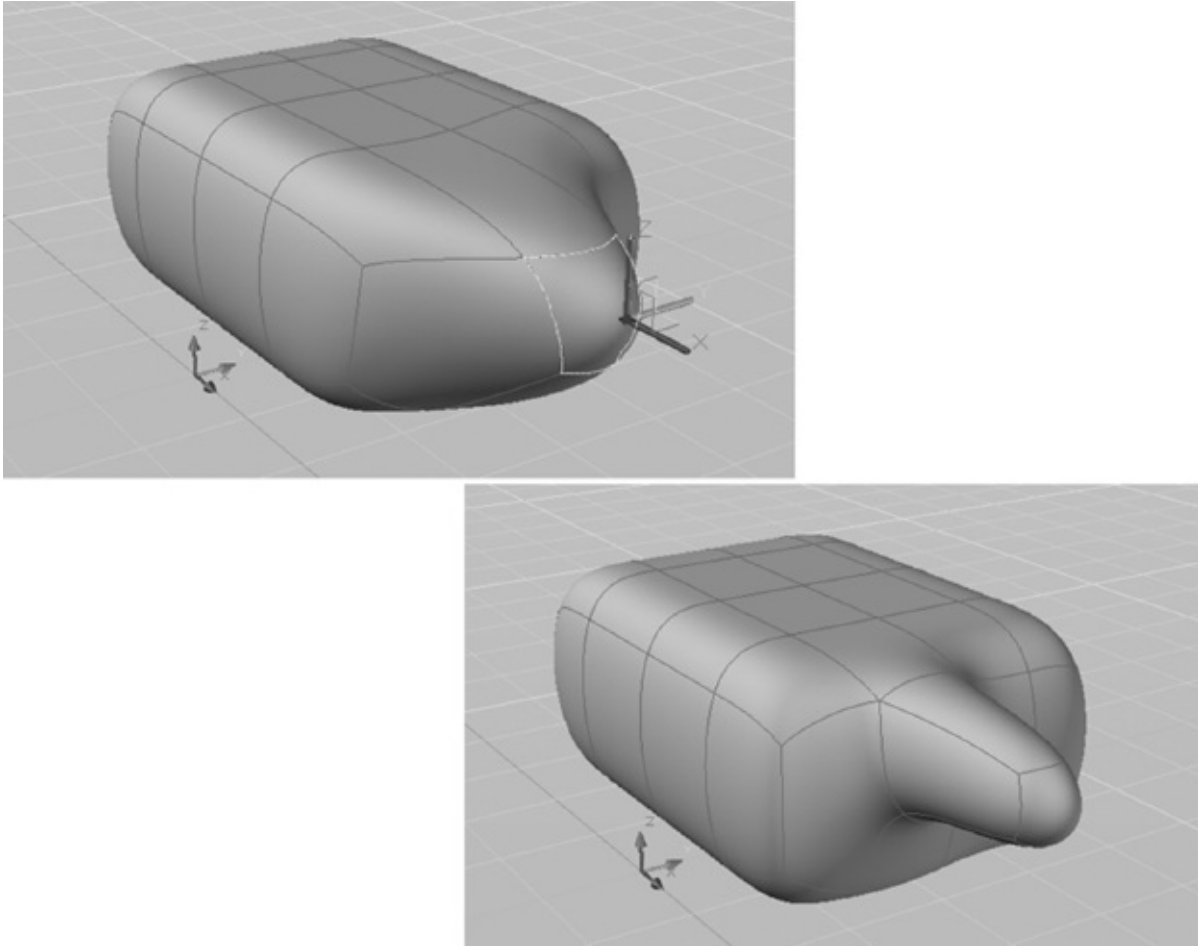

FIGURE 23.29 A moved face and an extruded face
2. Click and drag the x-axis in the positive direction. When the mesh looks similar to the upper panel of Figure 23.29, click to finish the move. The smoothness of the side is maintained as you pull the face.
6. Move the cursor along the z-axis in the positive direction. The face is extruded, leaving the faces around it unmoved except for a slight curvature at the base (see the lower panel of Figure 23.29).